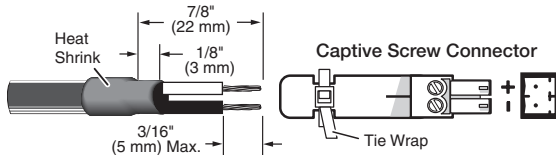

Figure 5. Wiring the Power Connector for the UCS T 911 and R 912
4. Wire the provided power supply to the 2-pole captive screw connector (see figure 5).